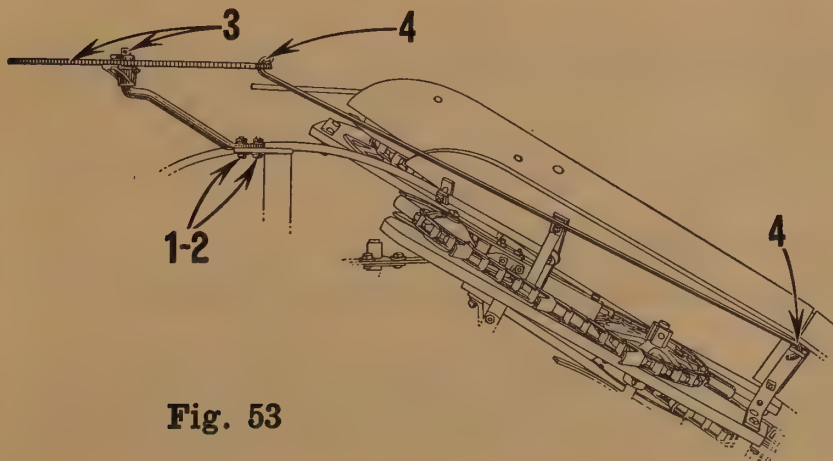

Fig. 53
1. (Fig. 53.) Remove upper discharge arm from discharge arm hub.
2. (Fig. 53.) Bolt discharge arm crank to top of discharge arm hub.
3. (Fig. 53.) Remove upper cotter in discharge arm crank.
4. (Fig. 53.) Hook link rod to bracket on gatherer top board (**Hook down**) and to discharge arm (**Hook up**) as shown.